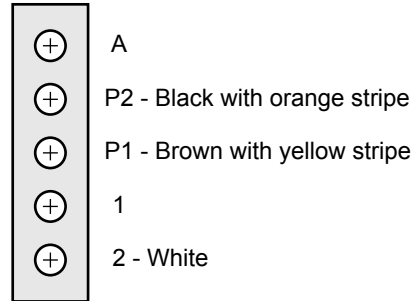

Fig. B6-2 - Connections to low water cutoff control
2. Disconnect the three wires on the terminal strip, and the violet wire that runs to the connector above the terminal strip. See Fig. B6-2.